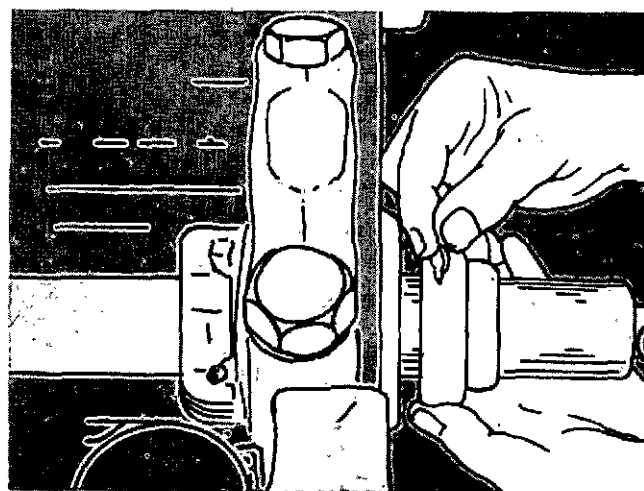

Fig. 1-50. Adjust The Cutting Depth Of The Tool.
- a. Loosen the thumbscrew on the depth set collar, Fig. 1-50.